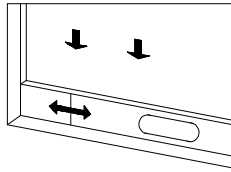

fig.2
- b. insert the heat pipe assembly (the end of the exhaust joint) into the back panel vent slot (push to the left) and complete the assembly (as shown in figure 2).